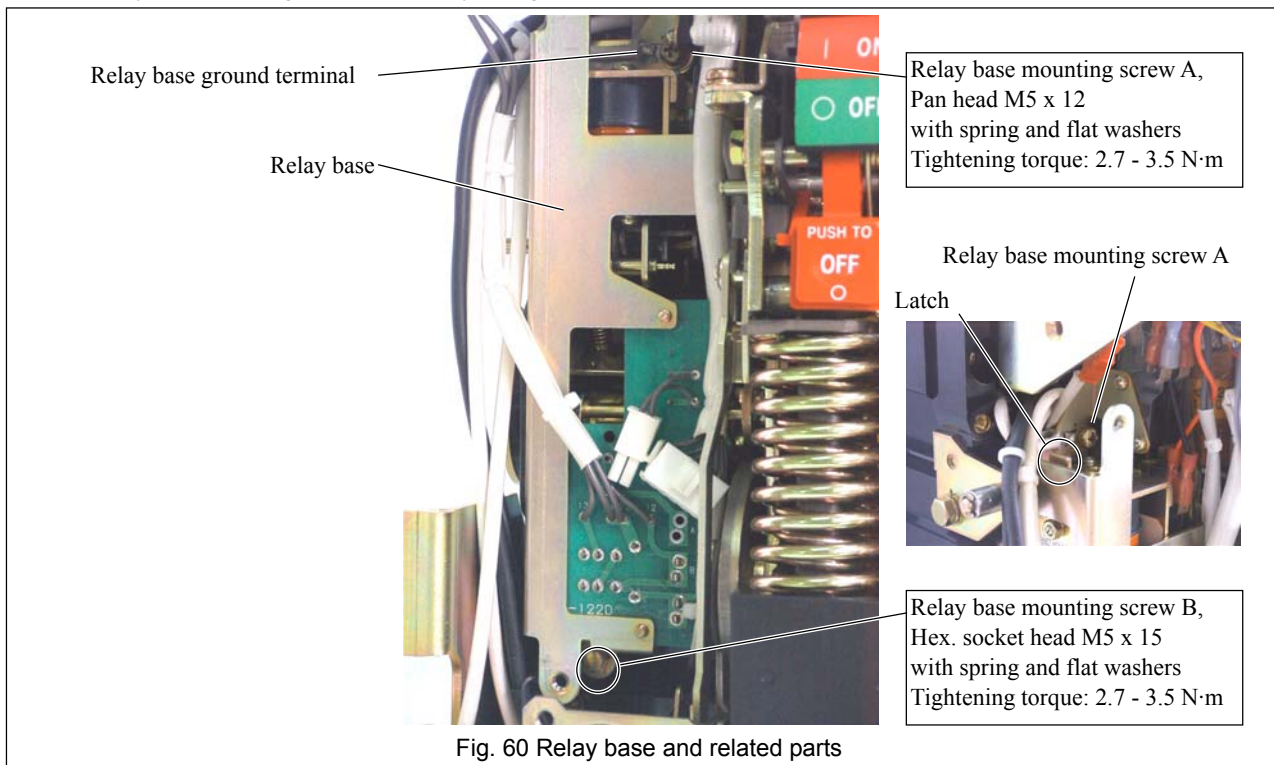

Fig. 60 Relay base and related parts
- 8) Unscrew relay base mounting screws A and B, raise the relay base to unlatch from other parts, remove the base and place it on the top of the breaker body. To remove relay base mounting screw B, use a ball end type 4-mm Allen wrench. See Fig. 60.